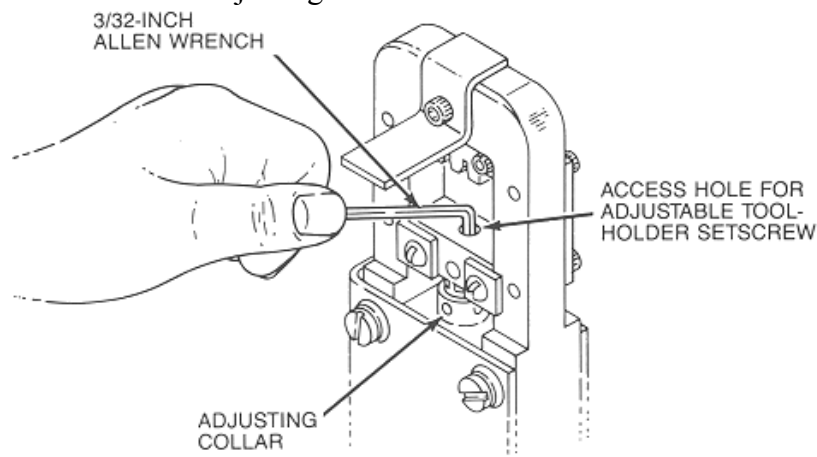

Figure 13
- Insert the 3/32-inch Allen wrench (supplied with hand tool) through the access hole in the adjustable tool holder and into the socket-head setscrew (see Figure 13). Turn the setscrew 1/4-turn counterclockwise to unlock the adjusting collar.